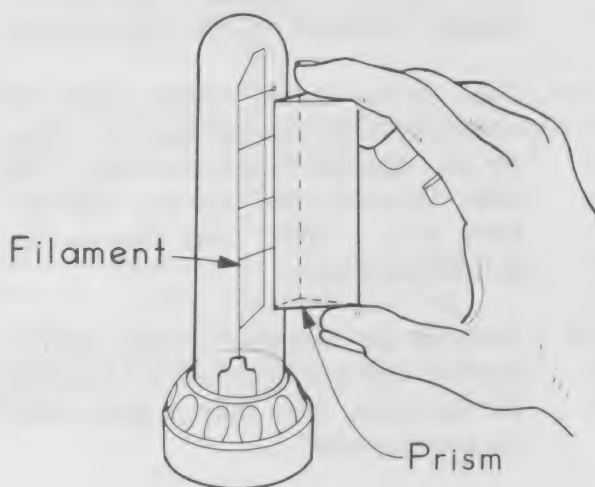

Figure 9.
1. Set the voltage at 100 V. Hold the prism near the straight filament lamp as shown in Figure 9. Turn the prism as you look into it until you see the spectrum of the filament. Do all colors of the spectrum